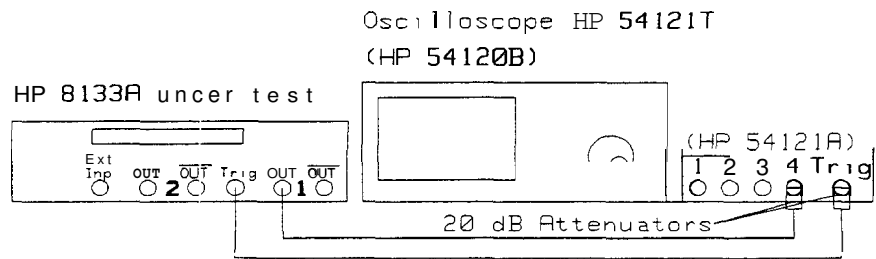

Figure 3-15. PULSE Channel Width Test Set-up
42. Connect the HP 8133A Pulse Generator to the oscilloscope as shown in Figure 3-15.
56. Keep the equipment **as** shown in Figure 3-15, but remove the 20 dB attenuator on Channel 4 of the oscilloscope.